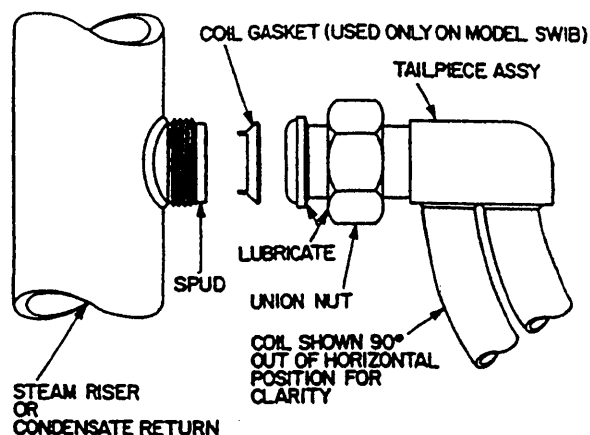

Figure HE-104-13 -- Assembly of Coil to Steam Riser or Condensate Return
- D8. Disconnect ALL external piping from the Heater top head, including that to that to the Relief Valve(s) (73) and the Water Solenoid Valve (79). Disconnect the Hot Water outlet piping at the union located beyond the outside diameter of the Heater top head.
- D11. Close the Shutoff Cock (90) in the Pressure Gage line and disconnect the Compression Fitting (86).
- D12. Disconnect the Compression Fitting (77), located at the bottom of the Shunt Tubing (87), from the Heater bottom head.
- D14. Remove the Nuts (51), Studs (53) & (62), and Lockwashers (65) from the Heater bottom head flanges.
- D15. Using a hoist or block and tackle attached to the Lifting Lugs (52) on the Heater top head, CAREFULLY lift the top head and shell STRAIGHT UP off the Heater riser and coil assembly. DO NOT SCRAPE the shell lining against the coil tubing.
- D18. If a coil must be replaced, use a 1-5/16" open end wrench to disconnect the unions holding the coils to the Steam riser and Condensate return. Be careful not to damage the spud threads (see Figure HE-104-13).
- a. See Figure HE-104-13. A conical Coil Gasket (57) is required for each coil union in the Heater. It is recommended that Coil Gaskets (57) be replaced whenever a coil is reassembled to a riser or return even though the coil itself is not being replaced. Snug the gasket into the riser or return spud.
- b. Before assembling the coils to the riser or return spuds, wrap each spud with Teflon tape and apply a lubricant (grease) to the back of the union nuts and shoulders on the coil tail pieces (see Figure HE-104-13). Rotate the nuts to spread the grease.